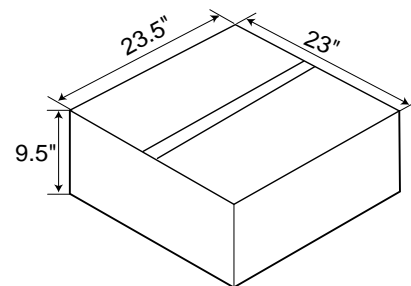

Fig. 3-3
2. Open the box (as shown in Fig. 3-3).
3. Take out the side covers right (5) and left (6).